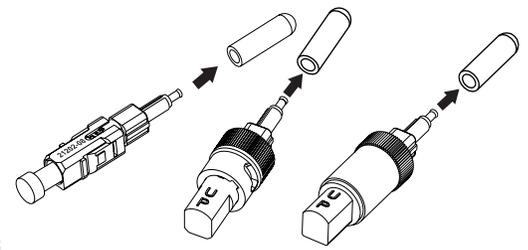

Figure 5-8
**5.3-4** Remove the rear dust cap from the connector (Figure 5-8).